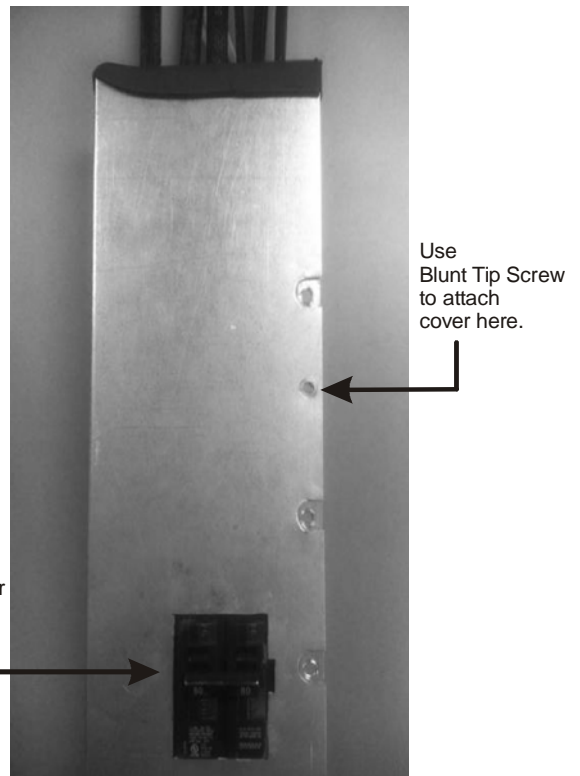

Figure 8
16. Place the cover on the kit as shown in Figure 8. Attach the cover using the blunt tip screw provided with the single point kit.